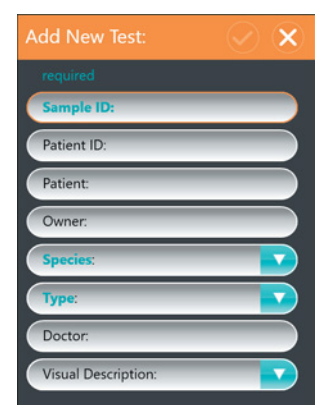

Figure 7
3. Enter sample information into each field of the Add New Test Window. Only the teal colored fields are required. Figure 7